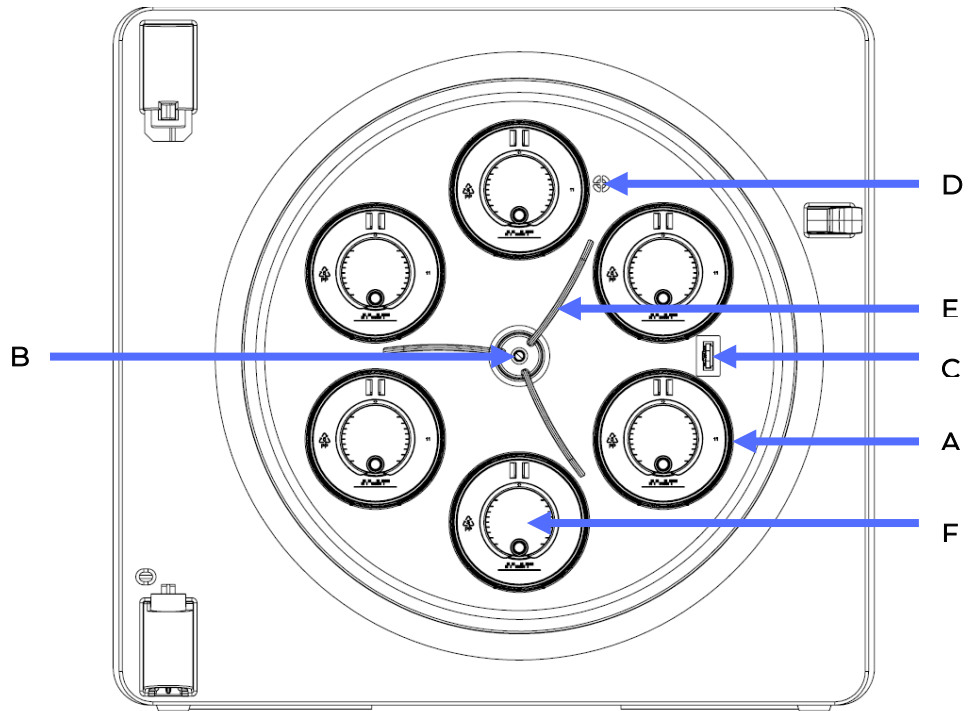

Figure 2
- Sensor measuring the workspace internal atmosphere temperature (°C) ('C' in figure 2)
- Sensor for measuring the workspace internal atmosphere CO2 content (%) ('D' in figure 2)
The fan (E in figure 2) rapidly mixes the atmosphere inside the workspace. It runs at a constant speed when the ClinoStar is operating. *The fan can simply be removed by gently pulling it, when the fan is turned off, enabling an easier cleaning.*
3D cultures are often grown for months. Therefore, as one of the features designed to minimize the risk of microorganism contamination, the ClinoStar is equipped with a UV-C LED light (see 'B' in figure 2). This UV-C light is switched off automatically when the door is open. Do not activate the decontamination program while you have cells growing in the ClinoStar.